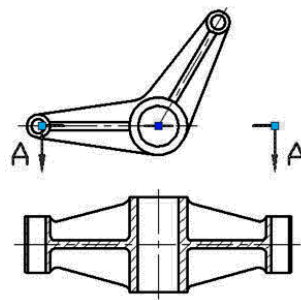

Fig 4.1
4. Test Dynamic Block: Open the graphic which needs to be dimensioned and insert the completed dynamic block (Fig 4.1).